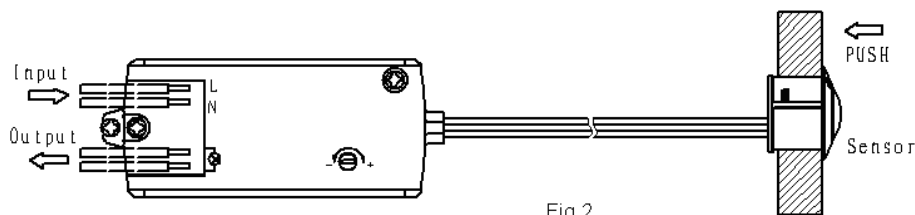

Fig.2
4. Fix the cables and the wired for signal, and adjust the angle of the sensor if necessary to adjust the effective detection area of the sensor. Then tighten it with hand push for the sensor. And connect the cables to the controller. (See Fig. 2)